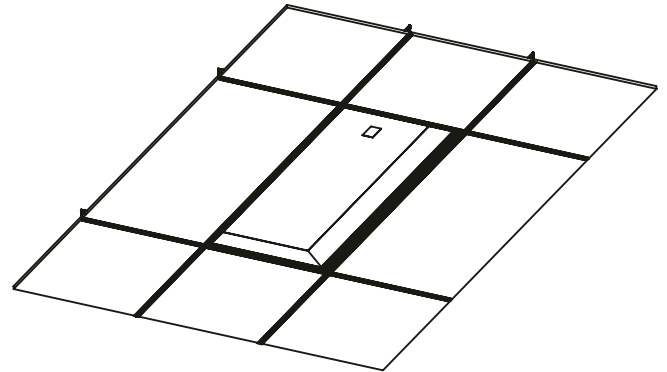

Fig. 2
2. Remove diffuser (if applicable), reflector, fluorescent tube, and lamp holder from the existing troffer housing. Empty housing from the existing fixture is shown in Fig. 2.